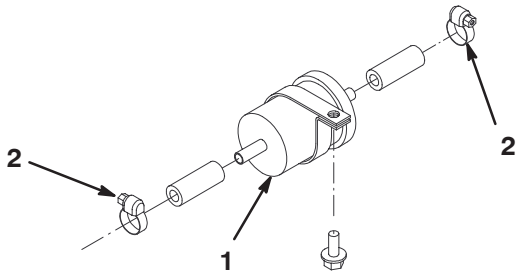

Figure 41
3. Loosen the hose clamps at both ends of the filter (Fig. 41) and pull the fuel lines off of the filter.